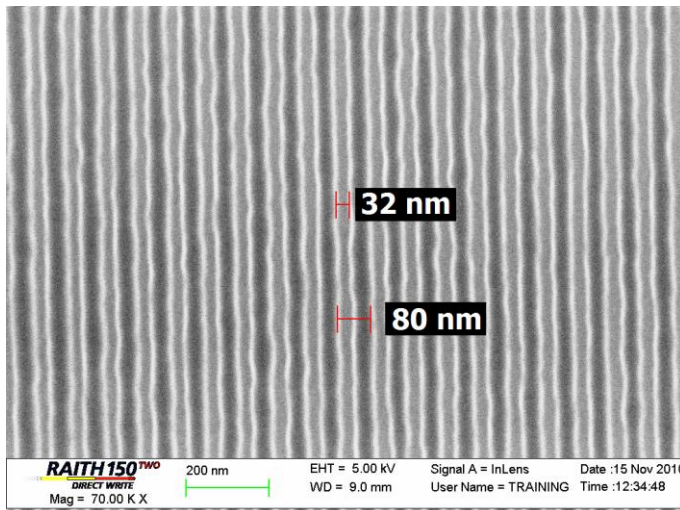
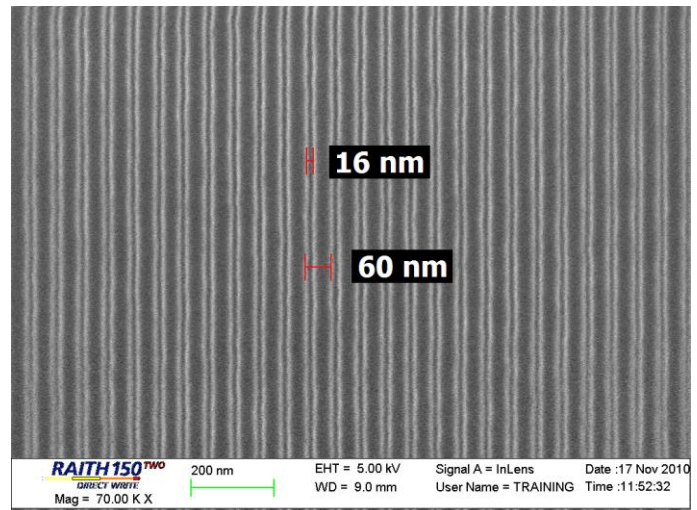

Fig. 1. 32nm gaps in 80nm pitch gratings using 10 keV, 100 pC/cm, and 22°C development process (a)
Fig. 2. 16nm gaps in 60nm pitch gratings using 10 keV, 160 pC/cm, and -15°C cold development process (b)
- For the given exposure conditions, sub-20 nm features can only be attained using cold development. Comparing Fig. 1 and Fig. 2, the individual line widths are approx. 2x less (32nm vs. 16nm).
- Cold development also allows denser patterns to be fabricated. As an example, 60nm pitch gratings could easily be fabricated as shown in Fig. 2 with improved LER. The best grating pitch achieved by room temperature development was 70nm (not shown).
- (+) The sensitivity of ZEP-520 was found to be 5x higher than PMMA. To pattern sub-20 nm features in PMMA using cold development, a line dose of 800 pC/cm was used compared to just 160 pC/cm for ZEP-520 as shown in Fig. 2.